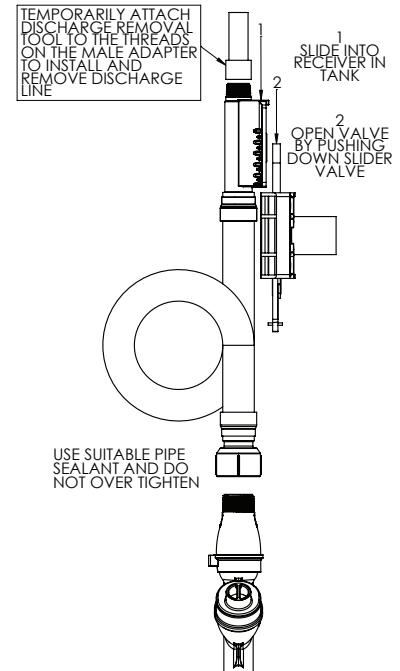

Figure 4
11. PUMP INSTALLATION: Install the flex discharge hose on the pump check valve (Fig. 4). Carefully lower the pump into the tank. Rotate discharge hose and male adapter to create a loop or coil. Slide male adapter into slide face receiver until it seats. Push down on slider valve assembly to open (Figs. 4 and 5). **Hang power cable, breather tubing with Equalizer, and lifting rope to prevent them from laying in sewage.** Keep between 18 inches and 24 inches of power supply cable in tank. The Equalizer should be hung as high as possible in the tank. Refer to the "Installation Layout" drawing in the front of this manual.